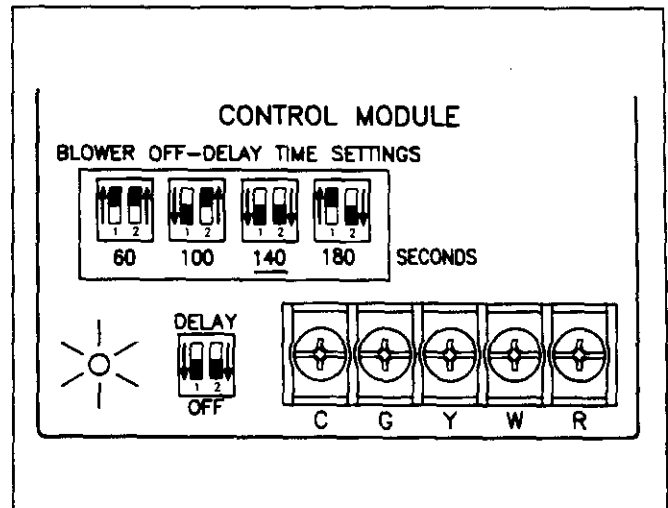

FIGURE 43
- Determine switch settings for desired heating blower off-delay. See Figure 43.